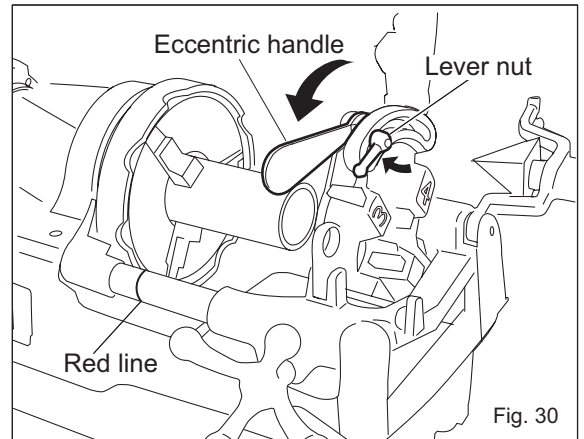

Fig. 30
If you start cutting a thread with the red line on the carriage support bar hidden from view, the carriage could knock into the base, which could lead to damage or possible injury. (Fig. 30)
- To match the size of the thread, align the scale on the Eccentric link (Fig. 28-1) with the thread size on the size scale on the die head, and then tighten and fix the lever nut in position (Fig. 30).
Start the thread cutting process with the carriage to the right of the red line on the front support bar. If you start cutting a thread with the red line on the carriage support bar hidden from view, the carriage could knock into the base, which could lead to damage or possible injury. (Fig. 30)